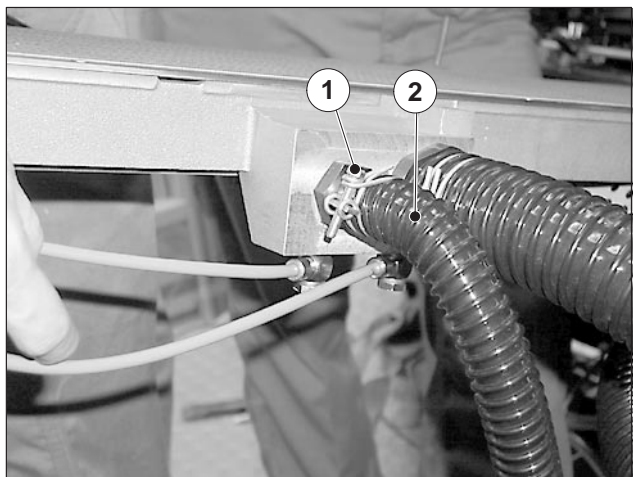

Fig. 100
4. Plug the two suction air hoses (Fig. 100/2) onto the hose nozzles on the suction tape. Tighten the screw (Fig. 100/1) on the clamp strap.